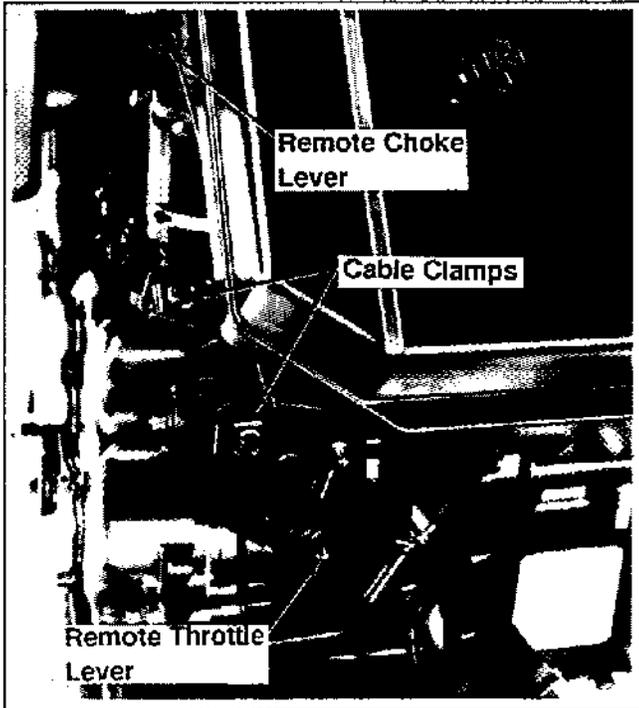

Figure 5-11. Remote Throttle And Choke Adjustment.
2. Install remote throttle cable in hole in the throttle lever. See Figure 5-11.